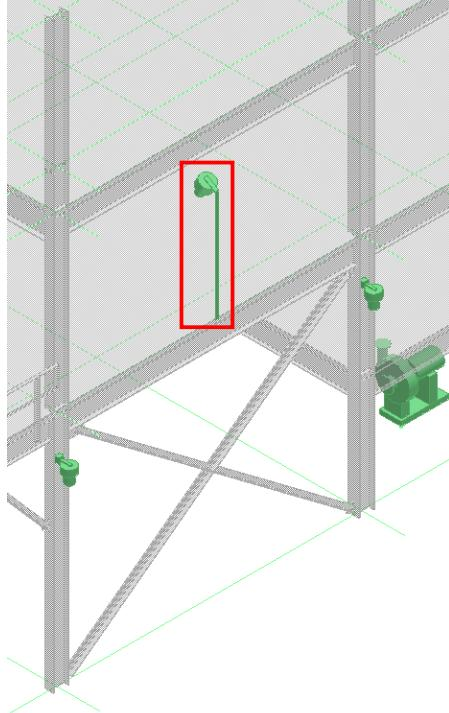

Figure 29: The Placed Stanchion Mounting Electrical Light
19. Click in the graphic view to place the stanchion mounting electrical light, as shown in Figure 29.